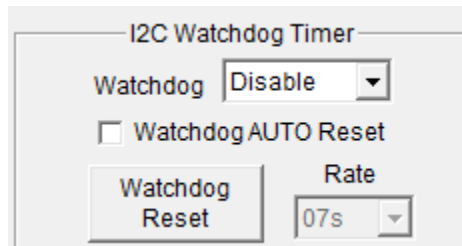

Figure 25: Watchdog Configuration
5. Configure the watchdog timer (see Figure 25).